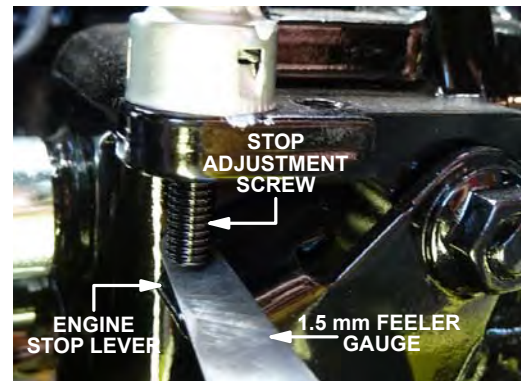

Figure 8. Adjust Spacing
- Use a 1.5 mm feeler gauge (Figure 8) to set the spacing between the stop adjustment screw and the engine stop lever.